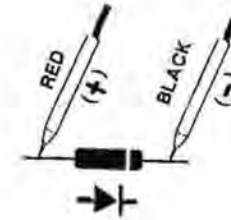

Fig. 2
- 4) a. When connected with polarity as shown in Fig. 2, a forward current flow is established and the approx. Diode Forward Voltage (VF) value in volt will appear on the display reading. If the diode under test is defective, " 0.000 " or near " 0.000 " value ( short circuit ) " OL " ( open circuit ) will be displayed.